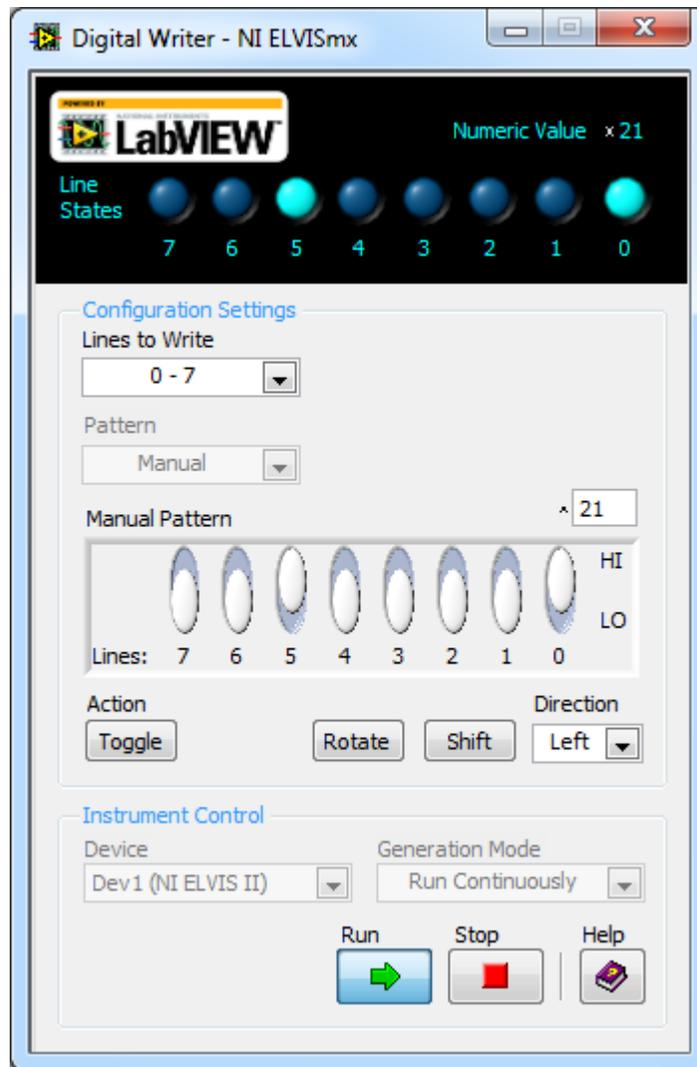

Figure 7.6. Digital Writer for Testing LEDs
7. Set the **Generation Mode** to **(Run Continuous)** and **Pattern** to **(Manual)**, as shown in Figure 7.6.